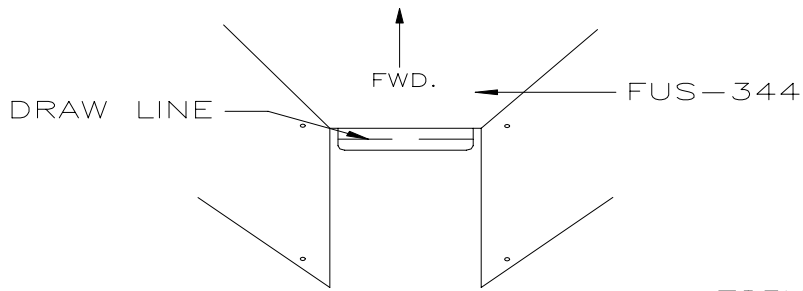

FIGURE 15
71) Draw a center line on the end flange of the FUS-344 horizontal bulkhead. Figure 15.